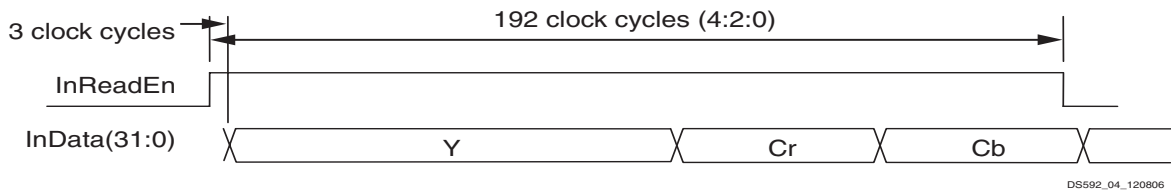
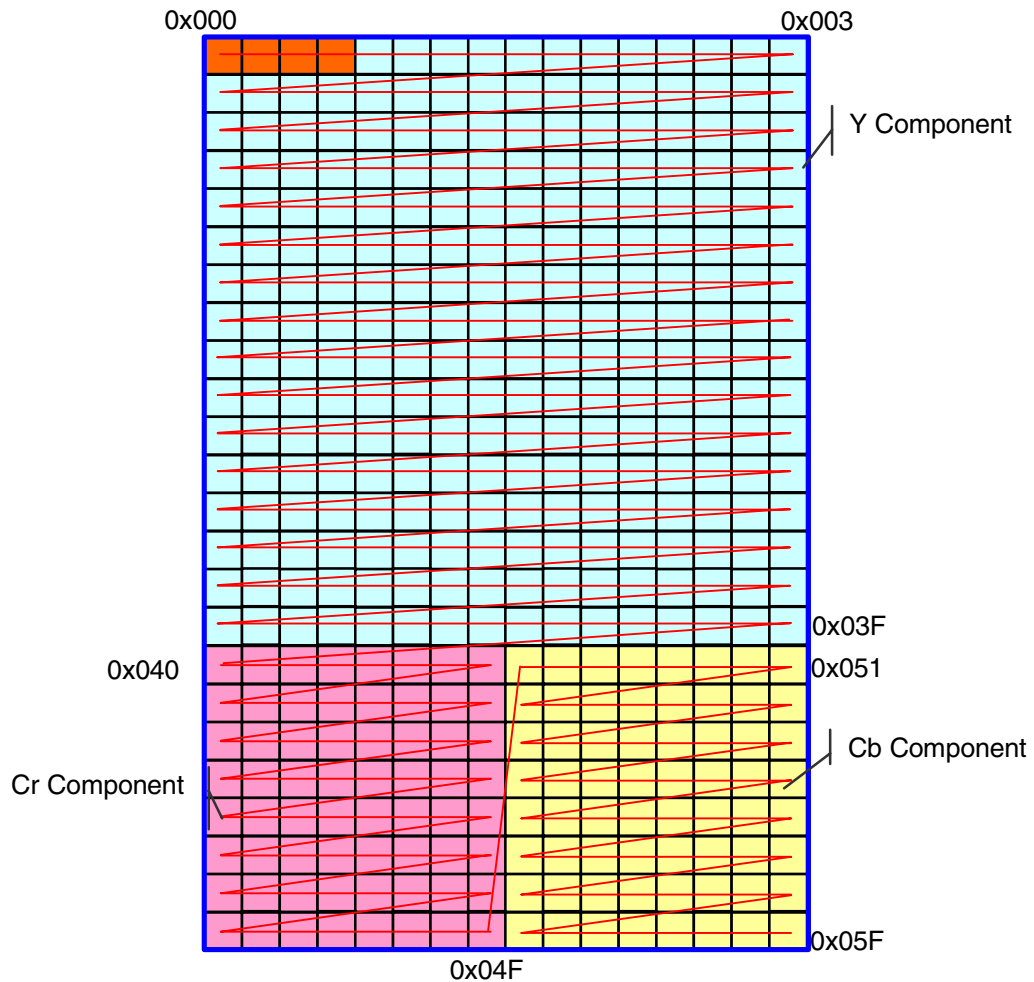

Figure 4: Input Timing for One Macroblock Showing YCrCb for 4:2:0
Figure 5: Macroblock Linear Addressing for 4:2:0
The luma (Y) component of any macroblock must be entirely passed to the deblocker before moving to the next component. This must be followed by the Cr component of the same macroblock and finally Cb, as indicated in Figure 4. Figure 5 shows this spatially as Macroblock Linear Addressing. Four adjacent input pixel samples are required to be present on the input bus in parallel, and held for 2 clock cycles. For 4:2:0, one macroblock requires $((256 + 64 + 64) / 4) * 2 = 192$ clock cycles. InReadEn will reflect this as shown in Figure 4.